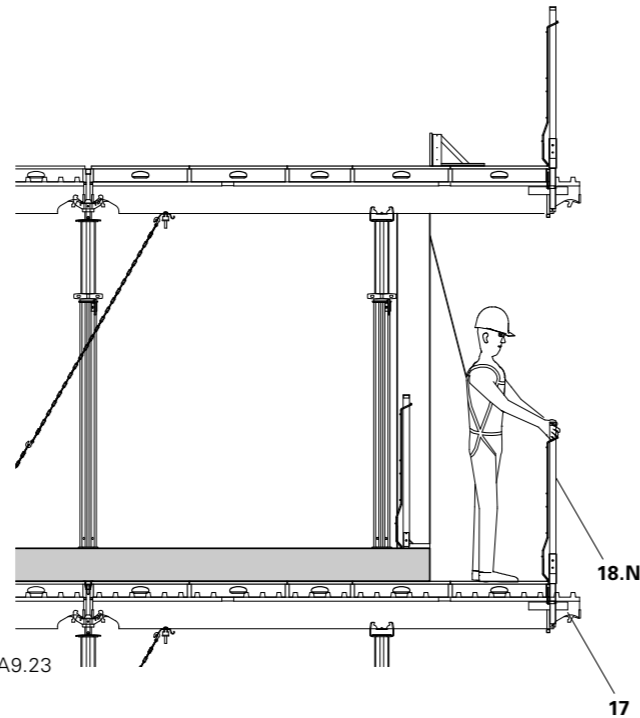

Fig. A9.23
3. Remove guardrail holders (**17**). (Fig. A9.23)